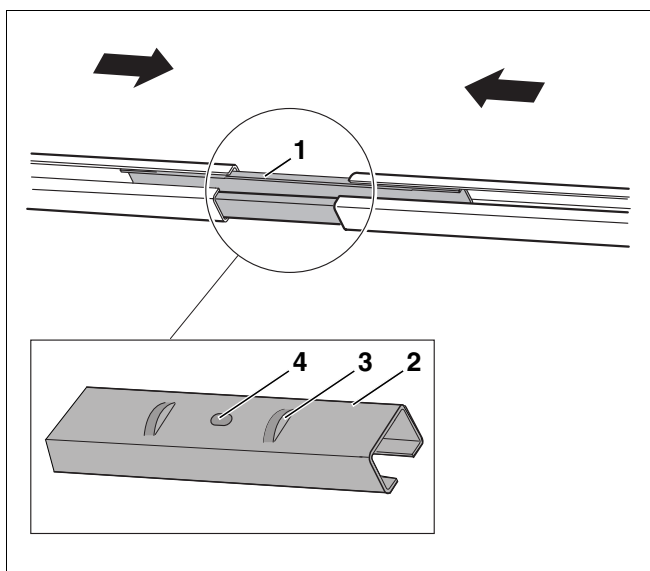

Fig. 12 Plugging profile rails together
If you wish to preassemble multiple collectors (at least two), the individual profile rails (top and bottom) must be connected with rail connectors (Fig. 12, **Item 1** and **2**).
- Slide the rail connectors (Fig. 12, **Item 1**) until they lock (Fig. 12, **Item 3**) in the profile rails.
A drilled hole (Fig. 12, **Item 4**, page 16) is present in the rail connector to check that the collector holder link is centrally positioned.